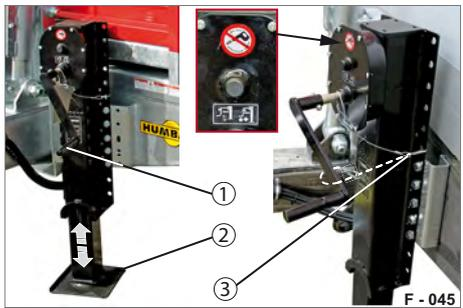

Fig. 70 Support foot extended
- ▶ Release the securing cable (Fig. 70/3) from the crank handle (Fig. 70/1).
- ▶ Crank the support foot (Fig. 70/2) with the hand crank - in override - until it nearly makes contact with the ground.
- ▶ Crank the support foot (Fig. 70/2) down to the ground.